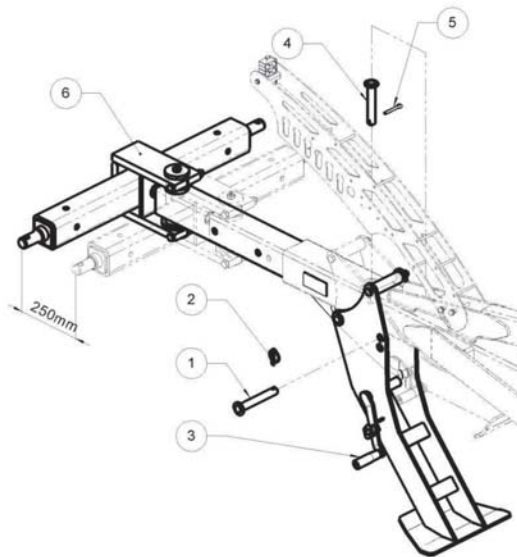

Fig. 7 Supporting leg and drawbar
- lift the support (Fig. 7) in the following way:
- » remove the pin (2) and pull out the pivot (1)
- » grab the handle (3) and lift the support up
- » re-insert the pivot (1) and secure it with a pin (2)
The length of the Germinator Pro unit may be increased to provide the tractor with sufficient space for making turns. When using double rear wheels, the drawbar length may need to be increased even more (Fig. 7).
- Lower the supporting leg (Fig. 7):
- » remove pin (2) and pull out pivot (1)
- » grab the handle (3) and lower the support
- » re-install the pivot (1) and lock it with the pin (2)